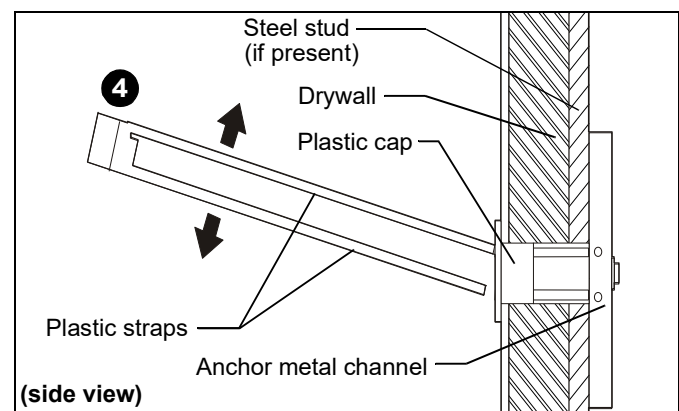

Figure 20
4. Snap off plastic straps on anchor at wall by pushing side to side, snapping off straps level with flange of plastic cap. (See Figure 20)